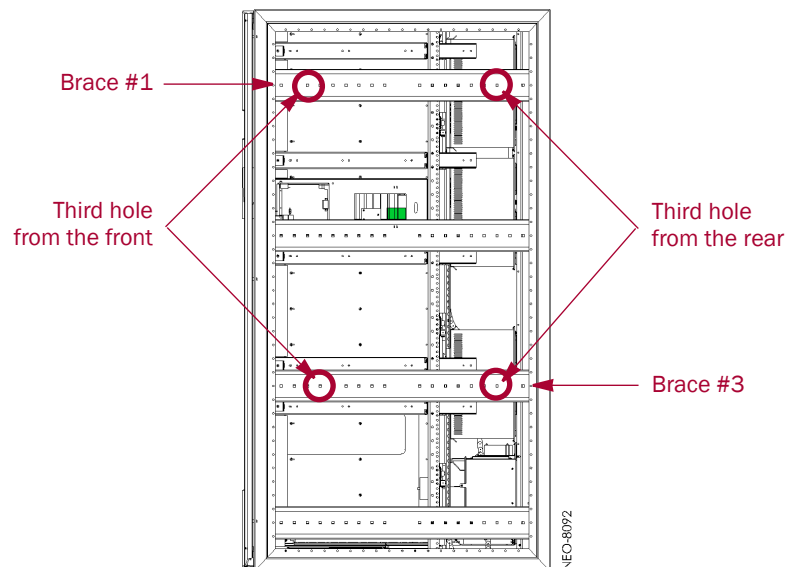

Figure 4-1: M8x100mm Bolt Locations on Master Unit Braces
Install the hex bolts on the Master unit. Use the third hole from the front and the third hole from the back on the two braces located at the first and third braces (see Figure 4-1).
3. Insert a **M8x100mm hex cap bolt** through the third hole from the back on both the first and third braces (see Figure 4-1).